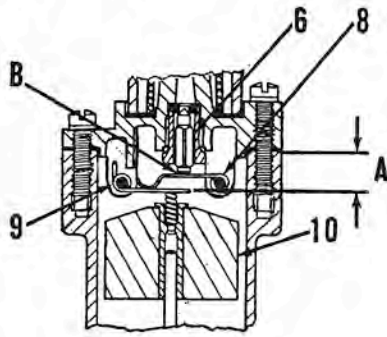

Fig. M77—Schematic view of float mechanism showing method of adjustment. Refer to text.
The recommended fuel level is approximately 1/16-inch below gasket surface of float bowl. To adjust the float, remove bowl cover (5) and refer to Fig. M77. Invert the cover and, with inlet needle (6) closed, measure the distance between primary lever (9) and gasket surface of bowl cover as shown at (A). This distance should be 1/32-inch; if it is not, bend the curved tang on secondary lever (8) until correct measurement is obtained. After adjustment is made, bend the vertical tang on primary lever (9) to allow a maximum clearance (B) of 0.040, between the secondary lever (8) and inlet needle (6). The contact spring located in